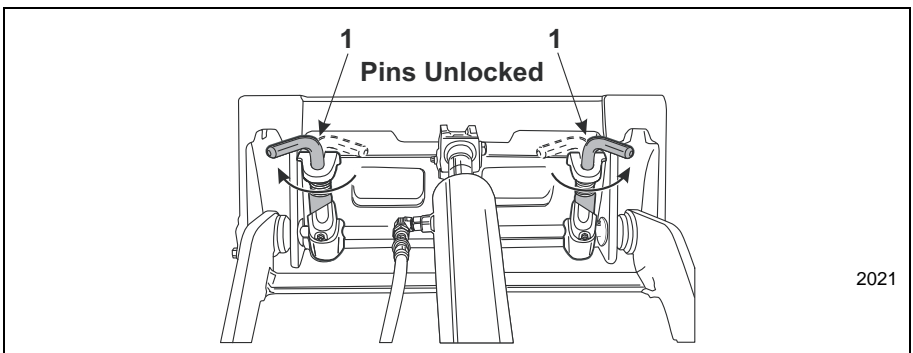

Figure 15 Attachment Locks in Unlocked Position
8. Cover the hose connections with the dust caps (Item 5, Figure 15) and store the hydraulic hoses to prevent damage.
9. Rotate the attachment lock pins to the UNLOCKED position (Item 1, Figure 15).